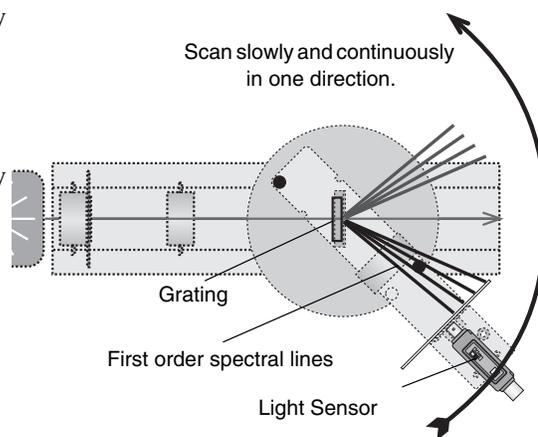

Figure 1.4: Scan the Spectrum
3. Push on the threaded post under the light sensor to slowly and continuously scan the spectrum in one direction. Scan all the way through the first order spectral lines on one side of the central ray, through the central ray itself, and all the way through the first order spectral lines on the other side of the central ray (Fig. 1.4).